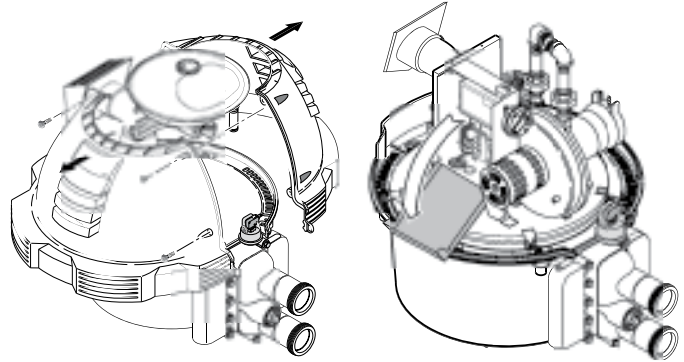

Figure 29.
2. Unbolt and remove the upper jacket halves (see Figure 29).